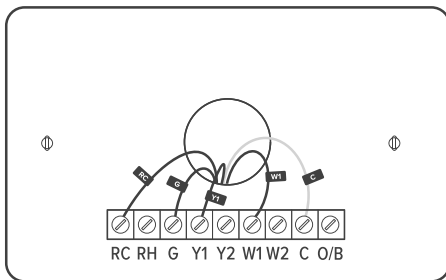

Figure 1.7
- Check if you have a C wire connected to your old thermostat. The C wire is used to provide power to the thermostat. **[Figure 1.7]**